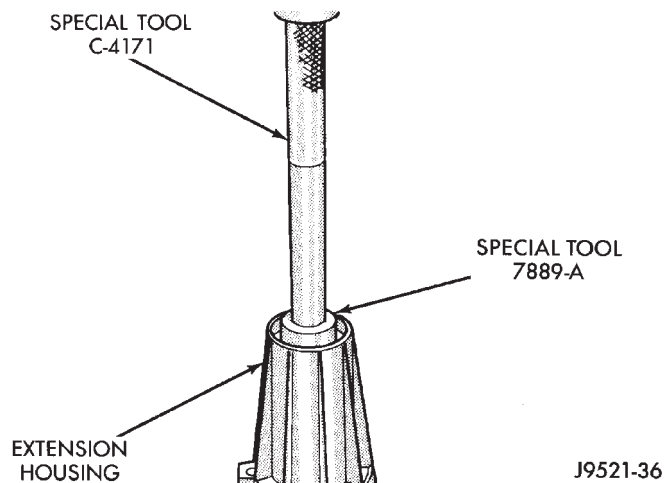

Fig. 70 Removing Extension Housing Bushing
(15) Remove extension housing seal if not removed previously.
(16) Remove extension housing bushing with Bushing Installer Tools C-4171 and 7889-A (Fig. 70).